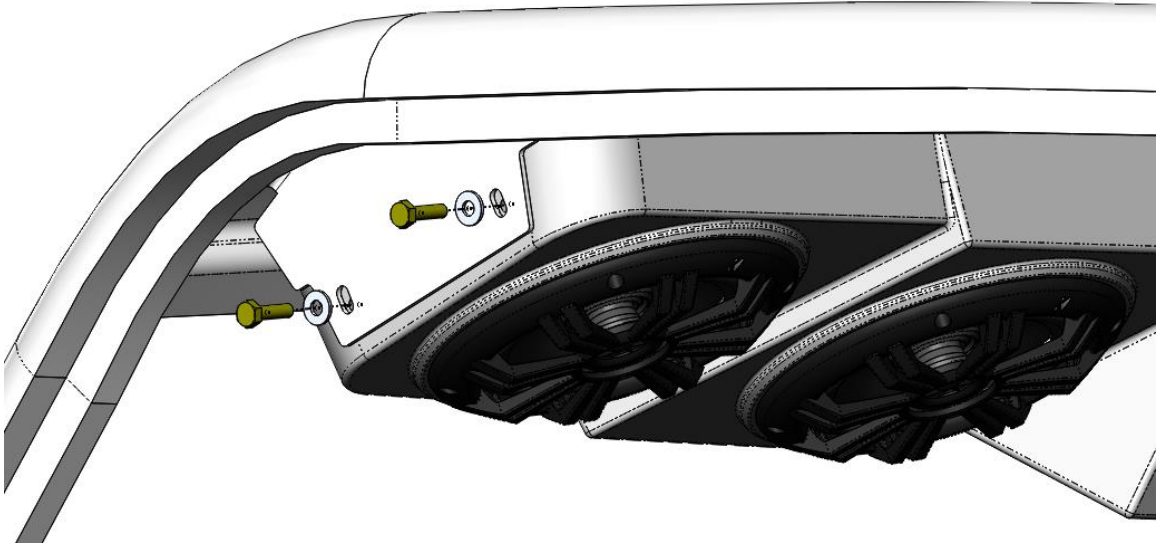
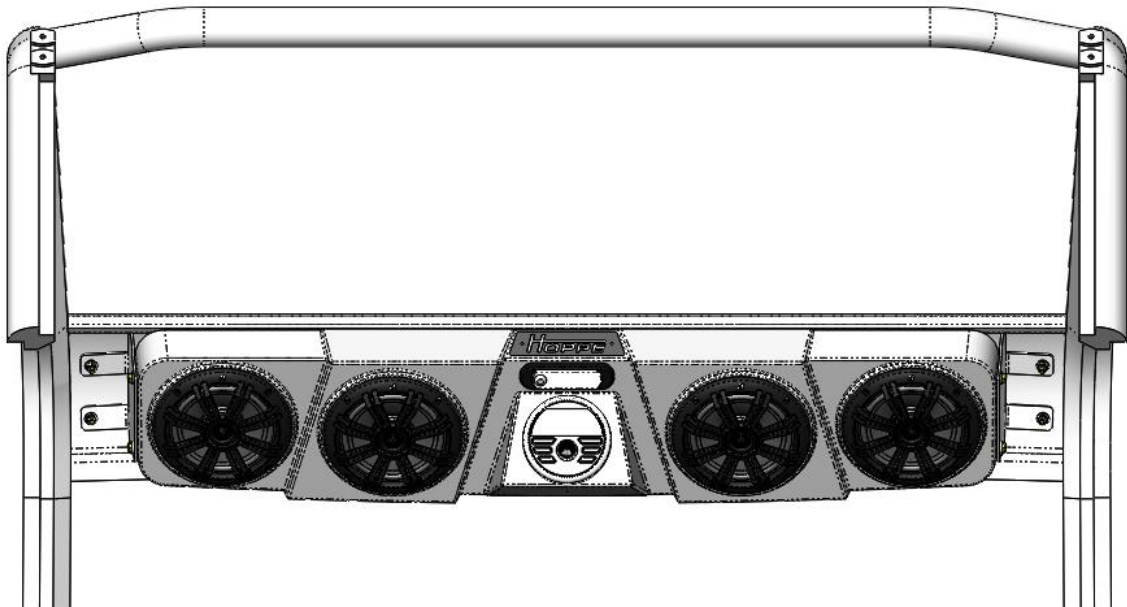

Figure 7: Install the $\frac{1}{4}$ "-20 bolts and washers to mount the Audio Mini to the brackets.
Figure 8: Loosely install the sound system on the mounting brackets.
- Using an assistant, hang the *Audio Mini* off-road sound system on the brackets using the supplied $\frac{1}{4}$ "-20 bolts and washers (loosely tightened). **Note: The sound system weighs up to 25 lbs. Since you will have to lift and bolt each end, it is helpful to have an assistant for this step.** See Figure 7 and Figure 8.